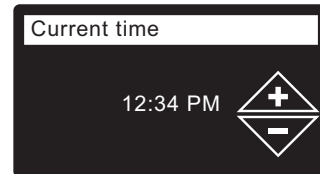

FIG. 27
- CURRENT TIME** Press the DOWN (▼) or UP (▲) buttons to set the current time (See Figure 27). Hold the button down to rapidly advance. Be sure that AM or PM is correct. If the system units were set to metric in Step 17, the clock will be in 24-hour format.
- Press the SELECT (O) button.